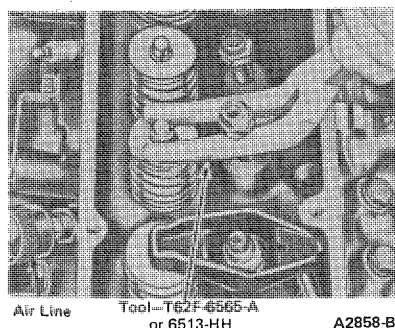

FIG. 40 Compressing Valve Spring — In Chassis
5. Install the stud nut and position the compressor tool as shown in Figure 40. Compress the valve spring and remove the retainer locks, spring retainer, sleeve and valve spring.